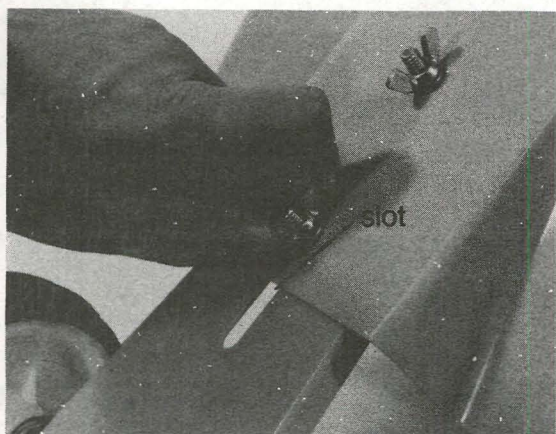

Fig. 4
2. Make sure the square shoulder of the bolts are through the slotted holes in the guard. Tighten the wing nuts (Fig. 4).